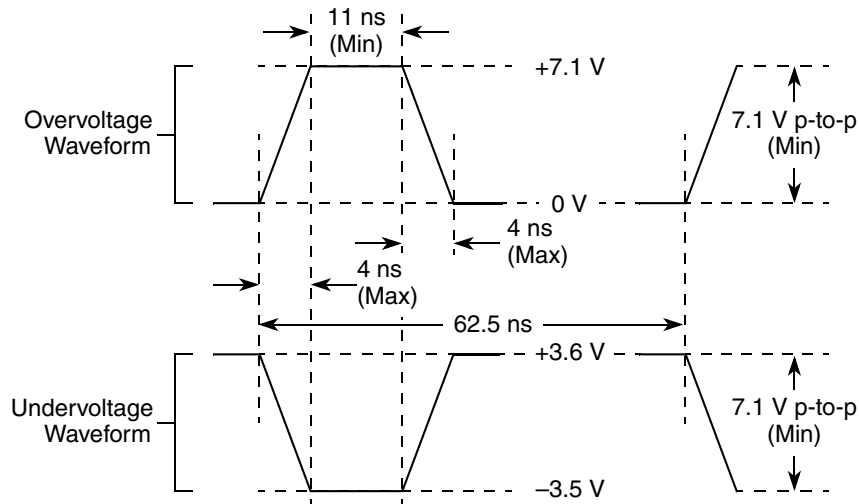

Figure 3. Maximum AC Waveforms on PCI Interface for 3.3-V Signaling
- ⁶ OV_{IN} on the PCI interface can overshoot/undershoot according to the PCI Electrical Specification for 3.3-V operation, as shown in Figure 3.
Figure 3 shows the undershoot and overshoot voltage of the PCI interface of the MPC8343EA for the 3.3-V signals, respectively.